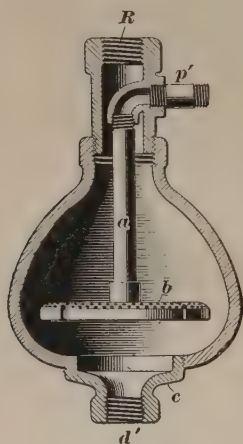

FIG. 22
29. Fig. 22 shows a section of the **commingler**. Water from the heater coil enters through the pipe d' and leaves through R on its way to the expansion drum. Steam from the train pipe enters at p' and passes down pipe a , escaping thence into the body of the commingler through the small
32. Each road has its own rules for cleaning out its piping, both as to frequency and also the method of doing it; the majority clean them out once a year. Following is the method adopted by the Canadian Pacific Railway, who are large users of this system: Take down the commingler, disconnecting the various pipes; connect a piece of hose with the open end of the riser, and attach a pipe to end d' to lead the water from the car. Then turn on water from the water main, allowing the full force to act; and the water, after making the circuit of the system, will escape out of the top of the coil through d' and the water pipe just mentioned. While this water is passing through the pipe, tap lightly but smartly on the pipes, particularly the cross-over pipes and heater coil. Remove the lower part c of the commingler, Fig. 22, take out the steam nozzle and clean it, removing any dirt that may be inside; see that the pipes a and P' are clean, and reassemble the parts. Disconnect the overflow and take the overflow cap out of drum; see that the openings in this cap are clean. Examine the trap cock; see that it is tight when closed and that when open a $\frac{1}{8}$ -inch wire will pass through it freely. This cock should show perfectly tight under a warm-water test, using a pressure of 250 pounds kept on for 20 minutes. The dial cock should be similarly tested. If these cocks are not tight, and it is found that tightening up the flange bolts does not make them so, they require new packing. See that the check-valves at c and h are clean; they should open and shut freely and also be quite tight on the seat. Examine the strainer in the fitting s at the bottom of the pipe P' . Take out the plug in the lower end of the fitting, remove the strainer, and see that it is quite clean and the holes all clear. The parts can now be connected and the